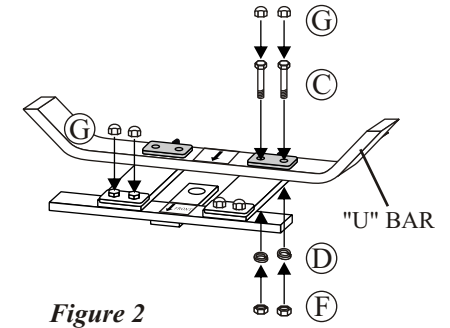

Figure 2
Step 4: Critical Step: The "U" metal plates must be installed in the proper location. Read this step and carefully examine. Insert the "U" metal plate, so that the "U" bar and rocker plate are between both sides of the "U" metal plate. Make sure that the holes in the "U" metal plate are completely aligned with the holes in the "U" bar as shown in *Figure 1*. Guide the bolts through the holes on the top side of the "U" metal plate, through the holes in the "U" bar portion of the chair, through the holes in the rocker plate and then, most importantly, through the holes in the bottom side of the "U" metal plate. It is very important that the holes in the bottom portion of the "U" metal plate be placed directly beneath the holes in the rocker plate. Add a spring washer and a nut to each bolt as shown in *Figure 2*. **Hand tighten nuts 3-4 revolutions only.** Repeat the same procedure on the other side.